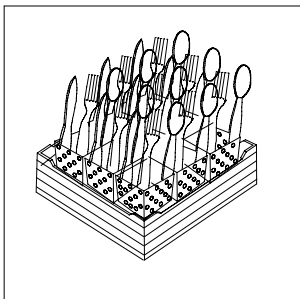

Fig. 21
- Put cutlery in the cutlery baskets handles down. Mix spoons with knives and forks. (Fig. 21)